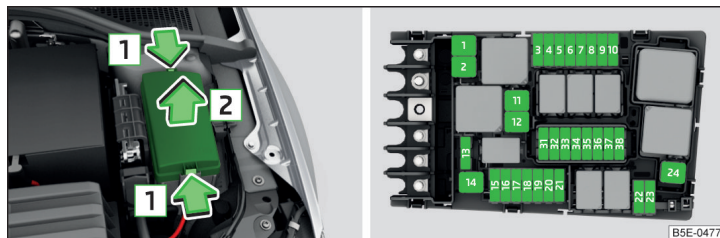

Fig. 217 Distribution board cover/fuses
- Press together the interlocks of the cover simultaneously in the direction of the arrow **1** » Fig. 217.